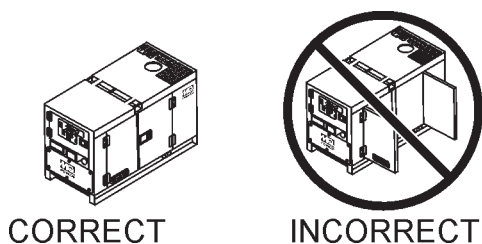

Figure 26. Engine Enclosure Doors
- Close all engine enclosure doors (Figure 26).